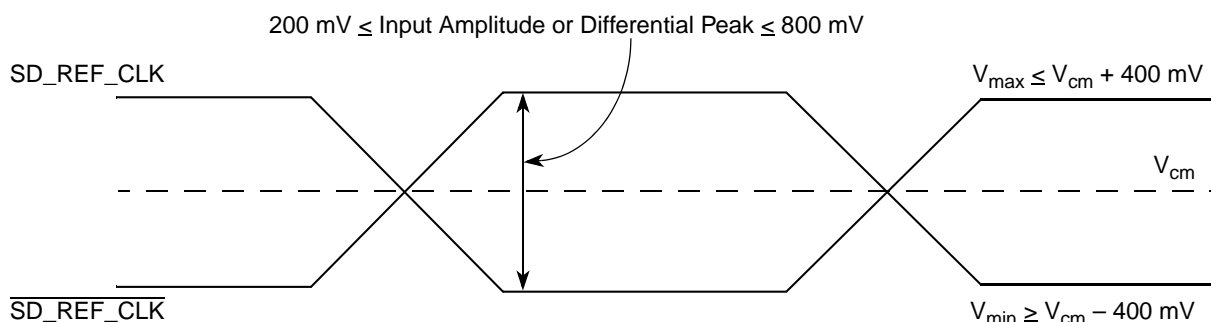

Figure 25. Differential Reference Clock Input DC Requirements (External AC-Coupled)
- For external AC-coupled connection, there is no common mode voltage requirement for the clock driver. Since the external AC-coupling capacitor blocks the DC level, the clock driver and the SerDes reference clock receiver operate in different command mode voltages. The SerDes reference clock receiver in this connection scheme has its common mode voltage set to $XCOREV_{SS}$. Each signal wire of the differential inputs is allowed to swing below and above the command mode voltage ($XCOREV_{SS}$). Figure 25 shows the SerDes reference clock input requirement for AC-coupled connection scheme.